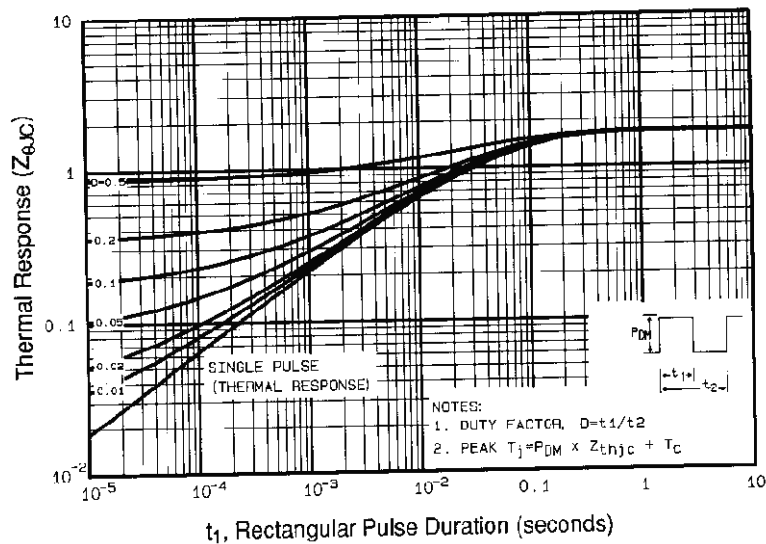

Fig. 11 - Maximum Effective Transient Thermal Impedance, Junction-to-Case
a. Repetitive rating; pulse width limited by maximum junction temperature (see fig. 11).
- a. Repetitive rating; pulse width limited by maximum junction temperature (see fig. 11).